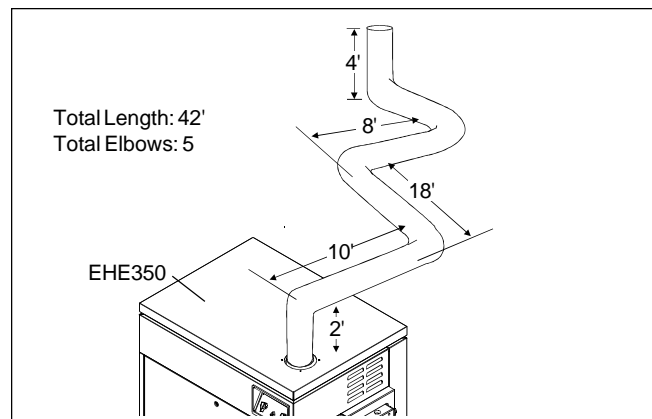

Figure 5. "One-pipe" installation.
1. A Model 350 heater is to be installed in a one-pipe system (see Figure 5). The vent pipe is 42 feet long and has five elbows. Per Table 3, 5" piping must be used. (Only 16 feet of 4" vent pipe would be allowable.)